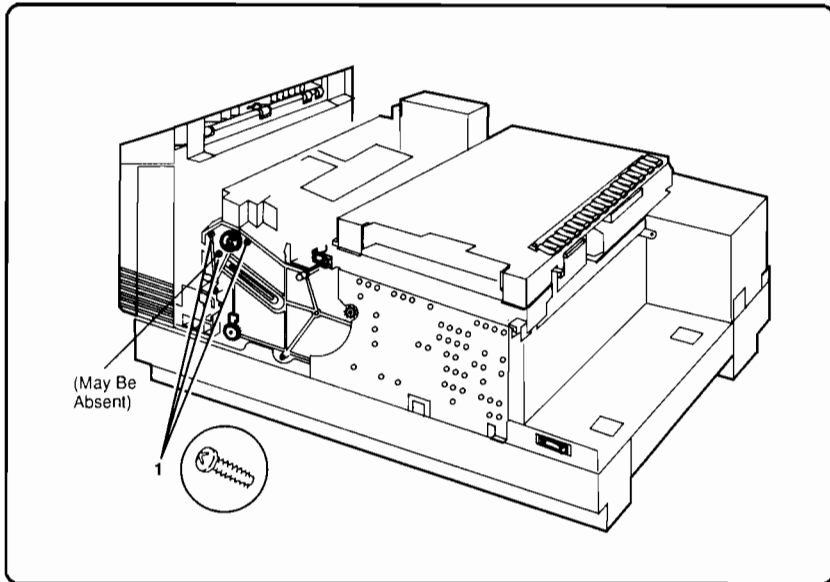

Figure 6-44. Drum Drive Gear/Clutch Assembly Removal
3. Remove the screws (2 or 3) securing the Drum Drive Gear/Clutch Assembly (Figure 6-44, callout 1), and then remove the assembly.